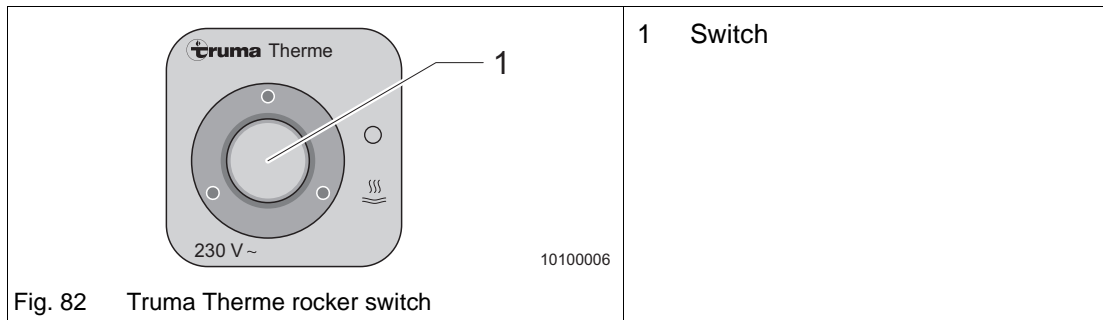

Fig. 82 Truma Therme rocker switch
The switch serves to start (Fig. 82/1) the electric operating mode. The control lamp in the switch is on during operation.
- ➔ Check that the Truma Therme switch is switched off (Fig. 82/1). The control lamp must be off.
- ➔ Switch the rocker switch (Fig. 82/1) for the Truma Therme on. The control lamp in the switch goes on. The water in the Truma Therme is heated to maximum 65 °C.
- ➔ Switch the rocker switch (Fig. 82/1) for the Truma Therme off. The control lamp in the switch is off.